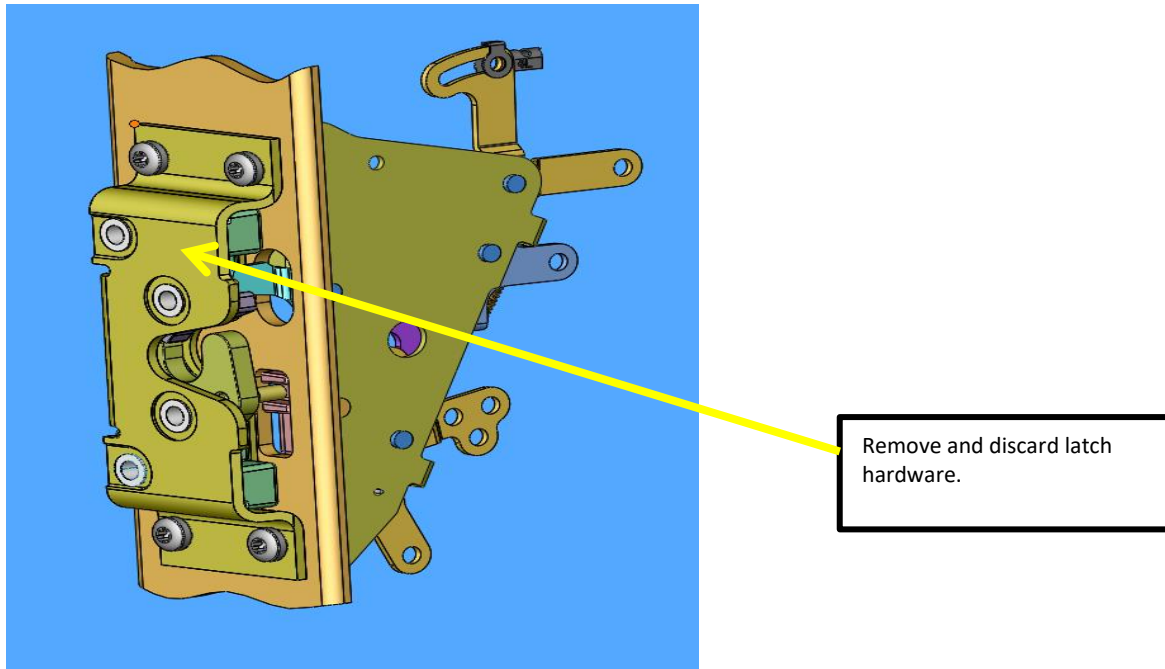

FIG. 5-1
6. Remove and discard the door latch and fasteners. NOTE: two fasteners toward outside of door utilize nuts to secure the latch to the door frame. Ensure these do not fall into the doorframe when removing or installing parts. Refer to FIG. 5-1.